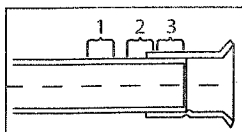

Figure 3
- Refer to Figure 3. Apply heat to Area 1, moving the torch up and down and rotating around the tube in order to heat the tube evenly.